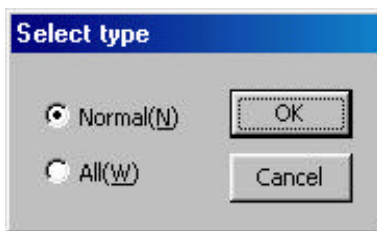

Figure 7.32 “Select type” dialog box
Click *Download (D)* in the “Program Manager” menu to display the “Select type” dialog box (see Figure 7.32).